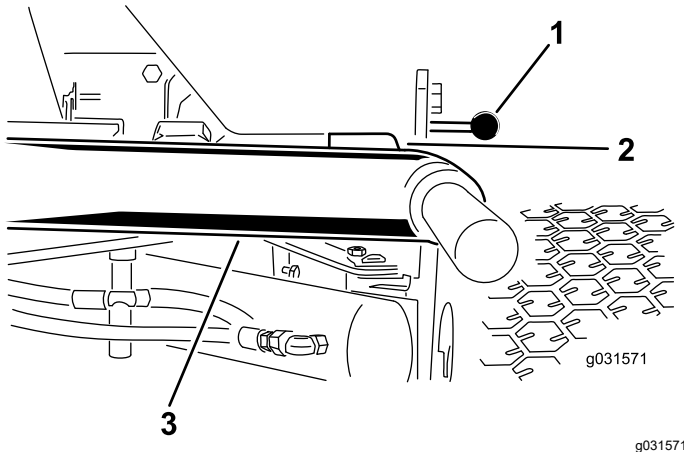

Figure 11
1. Start the engine, raise the cutting units, and ensure that the clearance between each lift arm and the floor-plate bracket is 5 to 8 mm (0.18 to 0.32 inches) as shown in Figure 11.